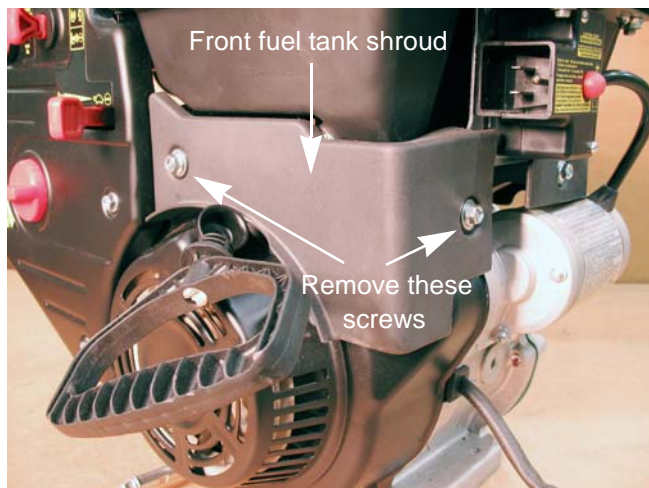

Figure 1.6
2. Remove the front fuel tank shroud using a 10 mm wrench. See Figure 1.6.